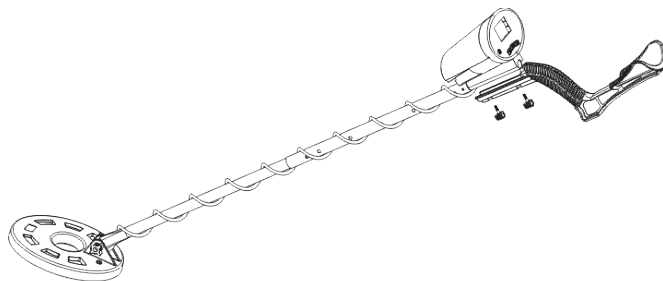

Fig. 1
1. Loosen the two triangular fasten buttons under the control box, insert to the bracket, and lock the two triangular buttons. See Fig.1